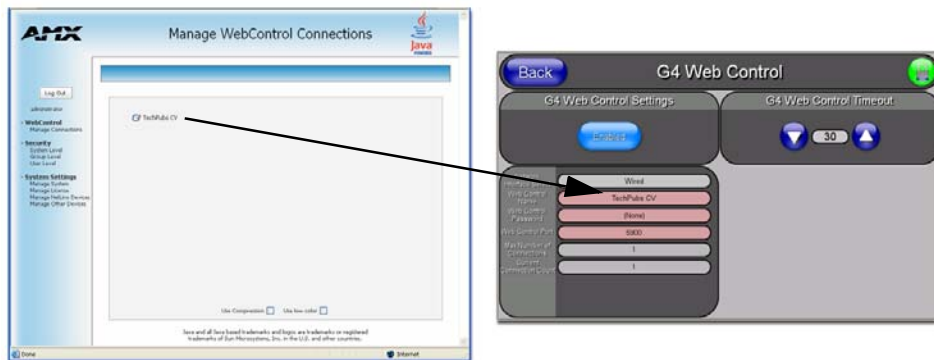

FIG. 44 Sample relationship between G4 Web Control and Mange WebControl Connections window
9. From the Web Name keyboard, enter a unique alpha-numeric string to identify this panel. This information is used by the NetLinX Security Web Server to display on-screen links to the panel. *The on-screen links use the IP Address of the panel and not the name for communication (FIG. 44).*